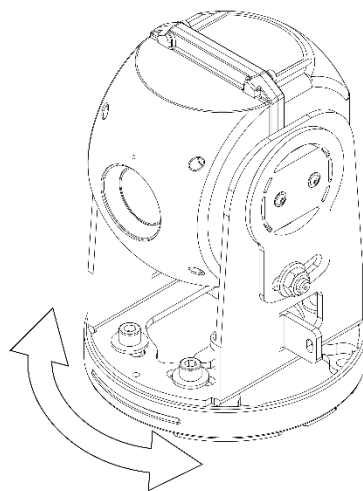

Figure 28: Tightening PAN Base Nuts
2. Lock the position by tightening the base nuts as shown in Figure 28.